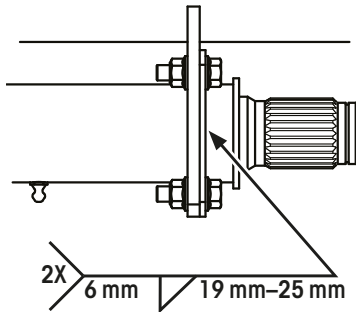

Figure 82: TRLAXLE Weld Mount Bracket Weld Specifications
8. Referring to Figure 82, weld the cam tube mounting bracket to the cam tube by placing two fillet type weld beads at accessible locations around the cam tube.